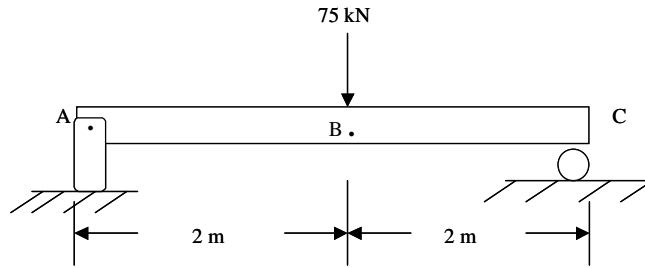

Figure 5
- (b) Draw the shear and bending moment diagrams for the beam shown in Figure 5. (10 marks)